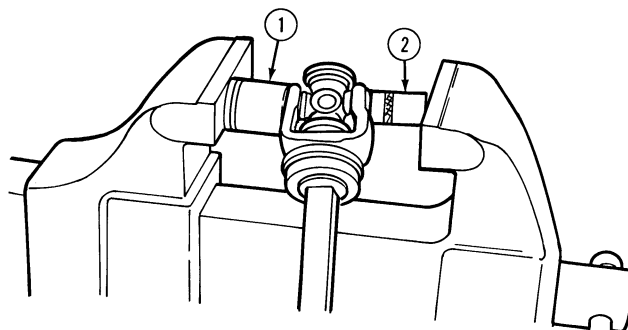

Figure 7
5. Place the universal joint in a press or large vise with the larger socket (1), Figure 7, or pipe supporting the yoke and the smaller socket (2), Figure 7, or pipe against the bearing cup.